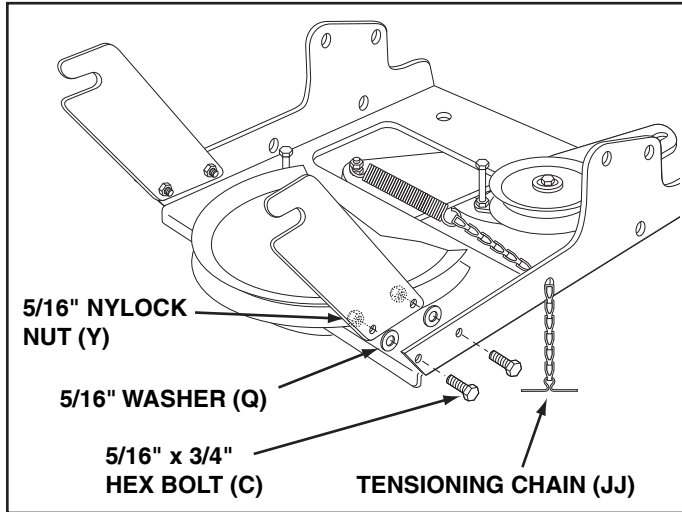

FIGURE 35
STEP 35: (SEE FIGURE 35)
- Attach the two suspension arms to the rear of the clutch/idler assembly using two 5/16" x 3/4" hex bolts (C), 5/16" washer (Q) and 5/16" nylock nuts (Y) for each arm.